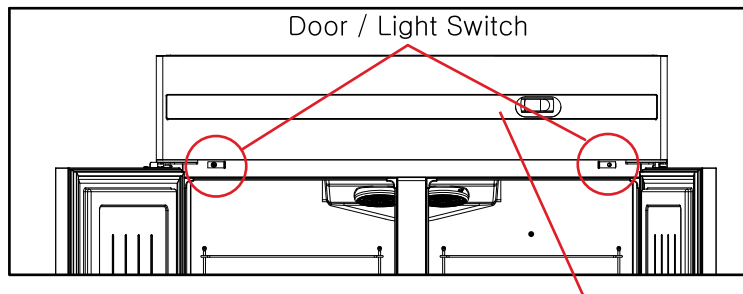

Fig 8-24
1. Check the switches for repair. (Fig 8-24)